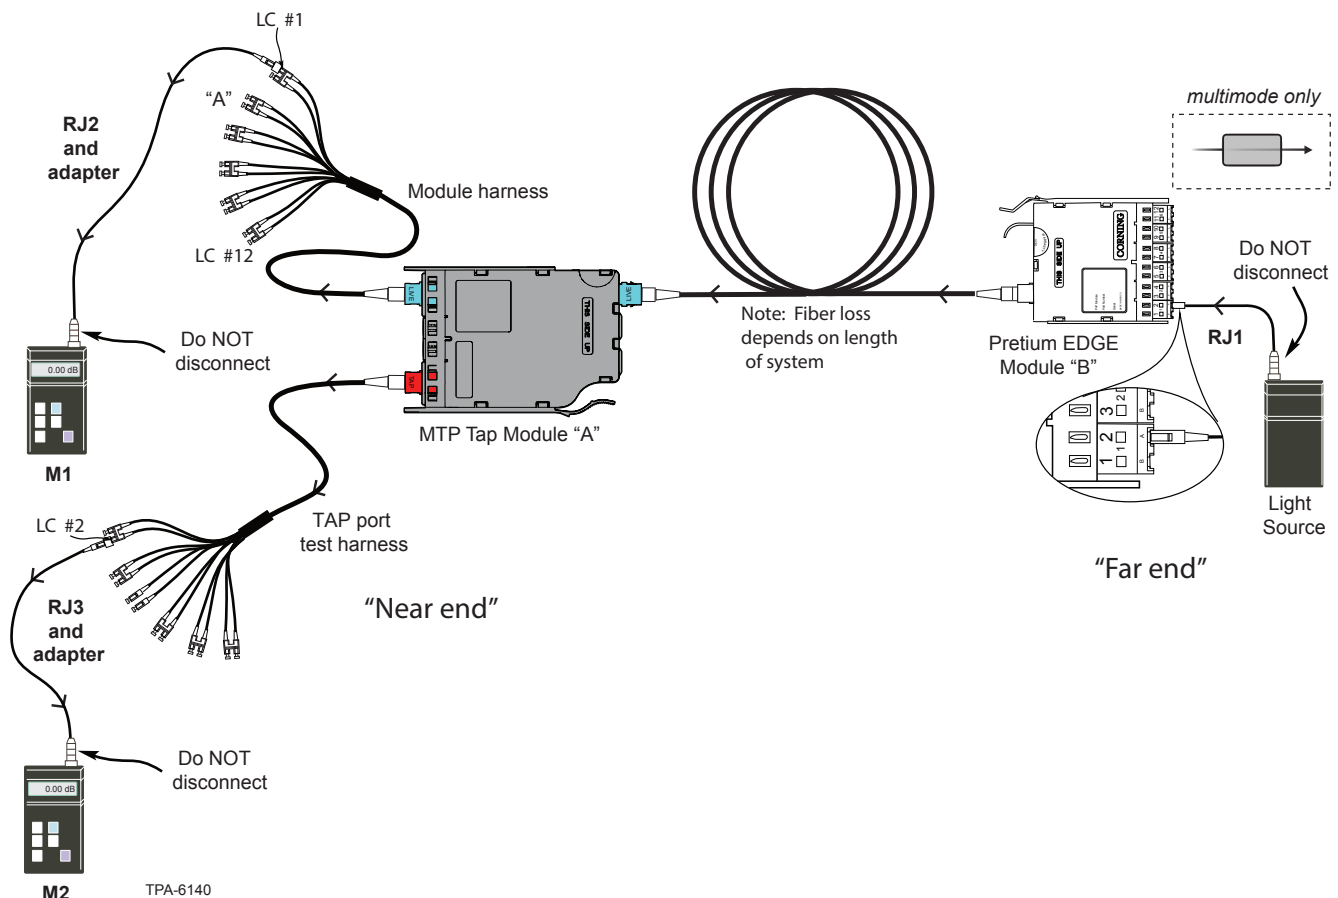

Figure 16
10.3 To begin testing the system (Figure 16):